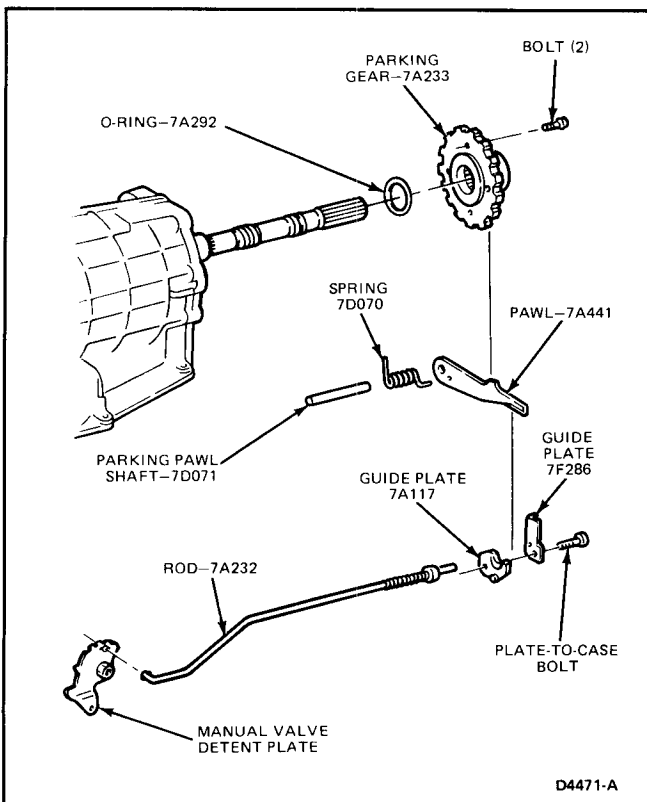

FIG. 13 Parking Pawl, Shaft and Spring
- Remove the bolt attaching the guide plates to the transmission case and remove plates (Fig. 13).
- Remove the parking pawl, shaft and leg spring from transmission case (Fig. 13).
- Install the parking pawl shaft and leg spring into the transmission case (Fig. 13).